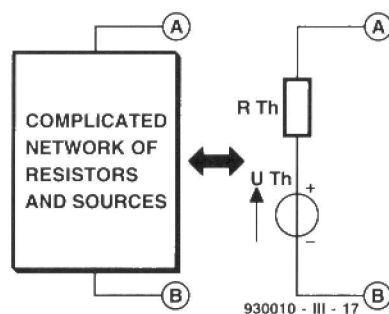

Fig. 27. Thevenin equivalent circuit.
This theorem states that any 2-terminal network consisting of one or more voltage or current sources and one or more resistances may be represented by a single voltage source in series with a single resistance (Fig. 27). If various external circuits are connected to the two terminals, the behaviour of the complex network and the Thevenin equivalent circuit are indistinguishable. Replacing a complex network by its Thevenin equivalent considerably simplifies subsequent calculations.
**Thevenin voltage.** Given the Thevenin equivalent circuit on the right of Fig. 27, let us suppose that terminals A and B are not connected to any external circuit. In this condition, no current flows through the resistor and there is no voltage drop across it. The open-circuit voltage across AB equals  $U_{Th}$ . Correspondingly, given a network, we find  $U_{Th}$  for its Thevenin equivalent by calculating the open-circuit voltage of the network. We can use the superposition method or other methods to do this.